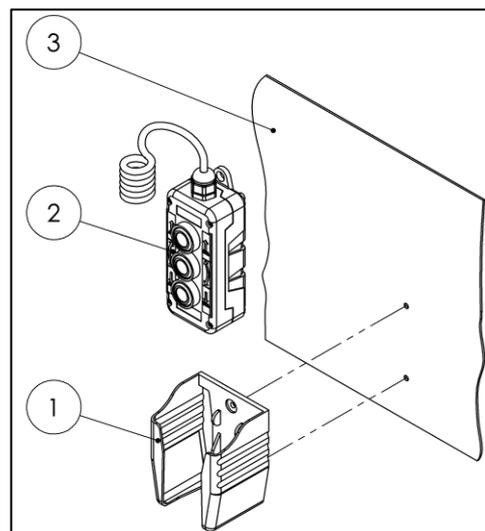

Fig. 50
- Mount the bracket (1) for the handheld control (2) on the vehicle wall (3) using, for example, 2 screws or adhesive (see Fig. 50).